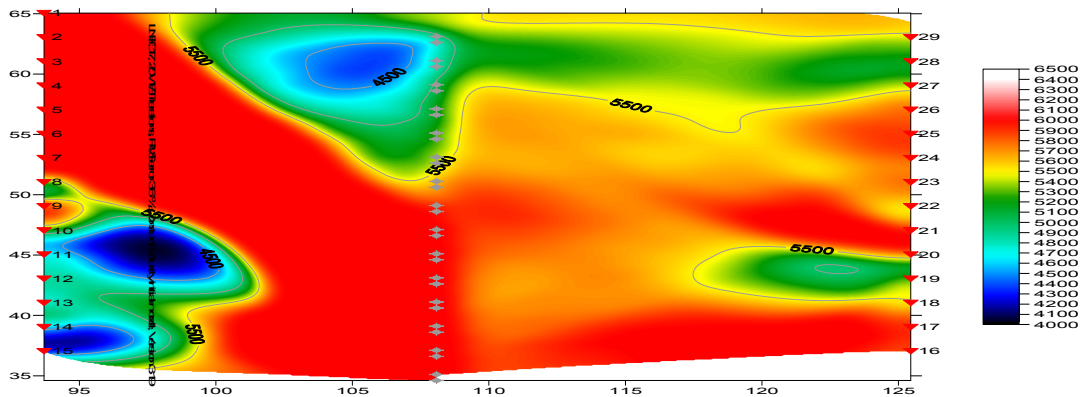

Fig. 1 : Default WET parameters : wavepath width 0.6%, smoothing filter : half width 5, half height 5
- invert travelttime data with *Smooth invert|WET with constant-velocity initial model* to obtain Fig. 1 :